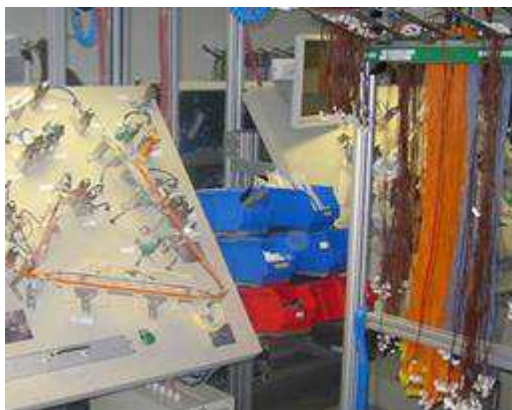

Figure 17
3. Harnesses have to be created as below requests. See Figure 17.